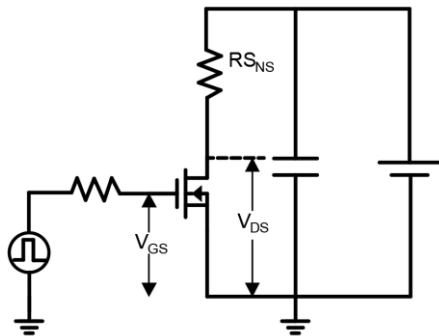

Figure 17. Dynamic  $R_{DS(on)}$  Test Circuit
c. Dynamic on-resistance; see Figure 17 and 18 for test circuit and configurations